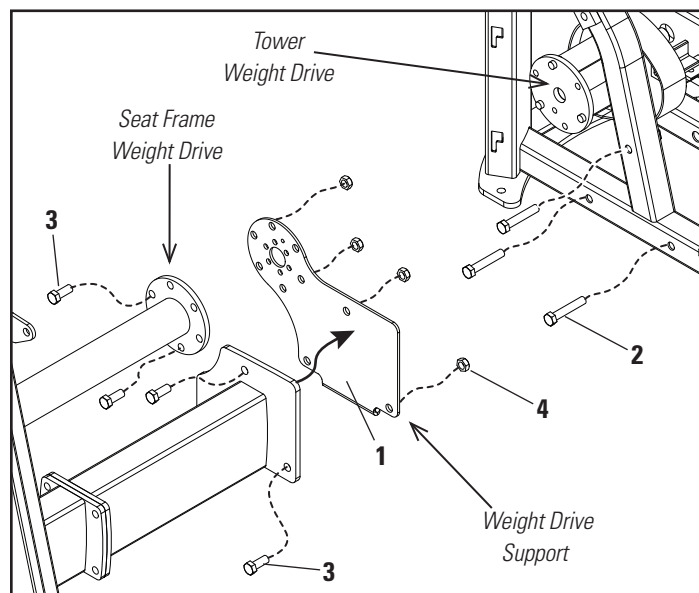

Fig. 1
- 1-1** Remove (3) 1/2-13 x 3" bolts from the Tower with 3/4" socket wrench (See Fig. 1).
- 1-2** Remove the Weight Drive Support from the Seat Frame by removing (4) 1/2-13 x 1 1/4" bolts and (4) 1/2-13 Lock Nuts with 3/4" socket wrench and adjustable wrench. Discard (1) bolt and (1) nut (See Fig. 1).